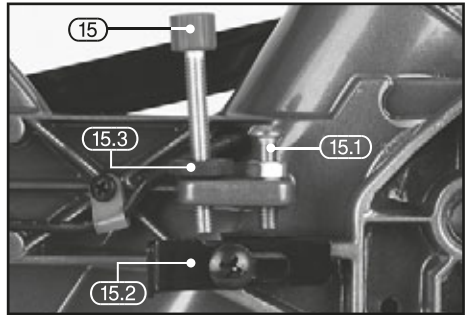

FIG.27
## 9.2 ADJUSTABLE DEPTH STOP – FIG.27
**Stock No.79889 (Fig.27):**
- If a different depth of cut is required, raise the head to its uppermost position. Pull the depth stop (15.2) forward, loosen lock nut (15.3) and adjust the depth adjustment screw (15) to the required position.